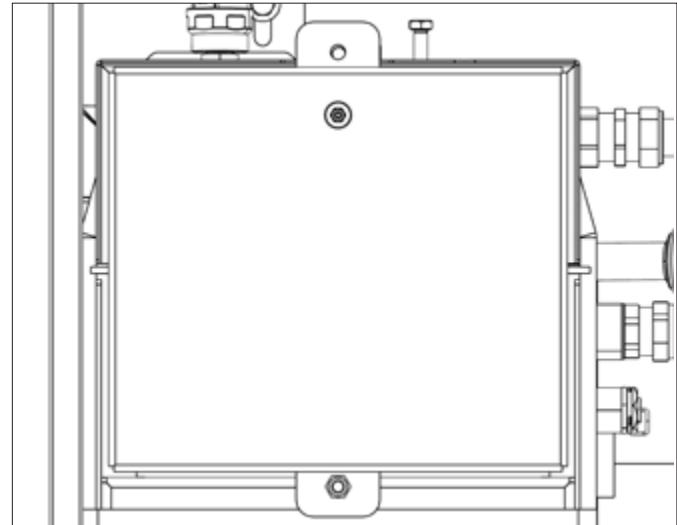

Figure 4-5: Removing clean-out door
18. Using 13mm spanner, unscrew the two clean-out door retaining nuts and remove door from front of boiler shell. (See Figure 4-5).